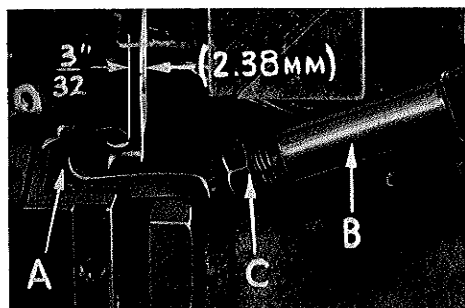
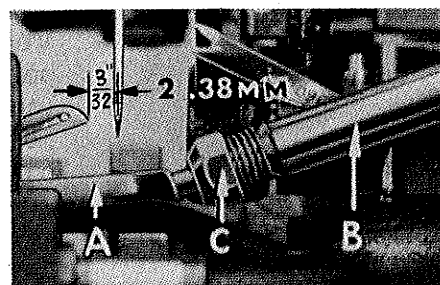

Fig. 6A
Fig. 6
At this point, insert lower looper (A, Fig. 6) on Styles 39500 QG, SD and TC
or lower spreader (A, Fig. 6A) on Style 39500 RN into bar (B). With lower looper or spreader at left end of its stroke, set looper or spreader point $\frac{3}{32}$ inch (2.38 mm) from centerline of needle (Fig. 6 or 6A) using looper gauge No. 21225- $\frac{3}{32}$. Do not have lower looper or spreader deflecting needle. Tighten nut (C). Now assemble differential (front) feed dog.